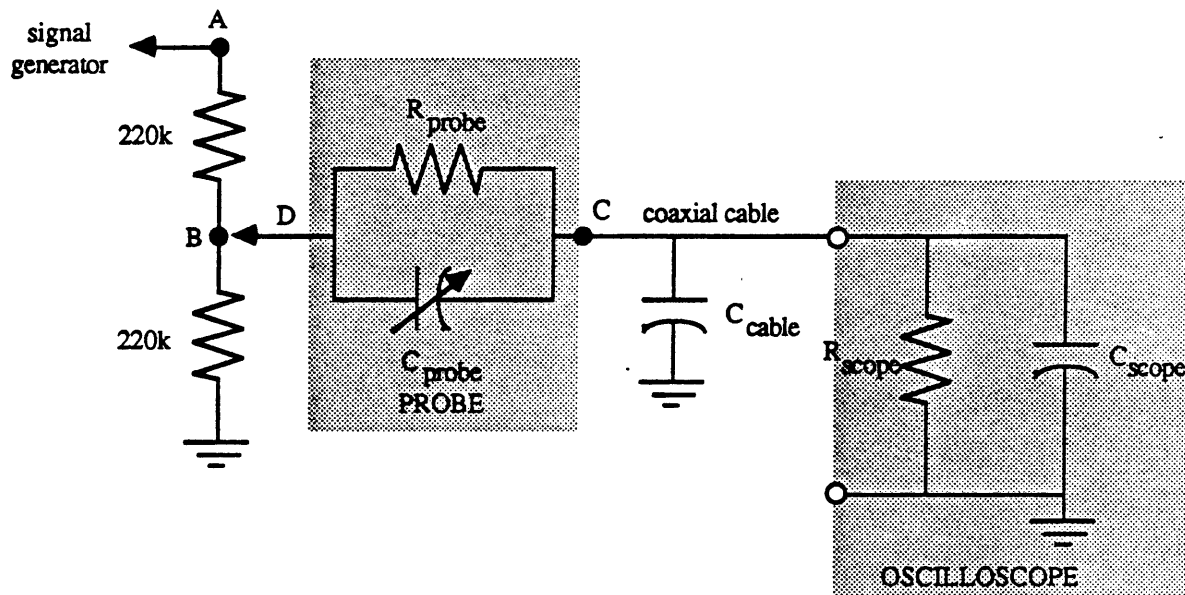

Figure 3.4 - Compensated scope probe circuit
A resistor and variable capacitor, as shown in Fig. 3.4, can be used to form what is called a compensated probe which can eliminate cable capacitance effects. Basically, the circuit is a capacitive voltage divider in parallel with a resistive voltage divider.
- (2) Use the coaxial cable to directly look at the output of the generator at point A in Figure 3.4.
- (3) Connect a 10 M resistor (R_{probe}) and a 1.2-30 pF variable capacitor (C_{probe}) to the coax as shown in Fig. 3.4. This circuit should be soldered to the end of your coaxial cable to eliminate any capacitance you might pick up from constructing it on your protoboard. NOTE: If soldering is not possible, construct the compensated probe on your protoboard using the layout shown in Figure 3.5.
5. The compensated scope probe was alluded to as a voltage divider in parallel with a resistive voltage divider. Analyze the circuit of Figure 3.4 with this viewpoint. What are the required time constants for compensation? HINT: See Millman and Taub, Pulse, Digital and Switching Waveforms, p.50-54.